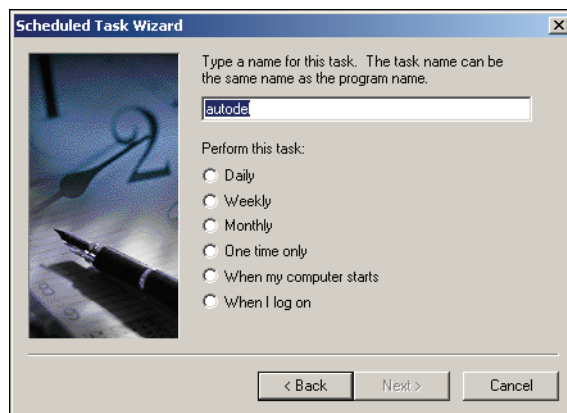

Figure 5-30: Name and Select the Frequency of Auto Delete
9. Select the autodel.exe option, then click on the **Open** button (or double-click on the autodel.exe option). The next window will open (see Figure 5-30).